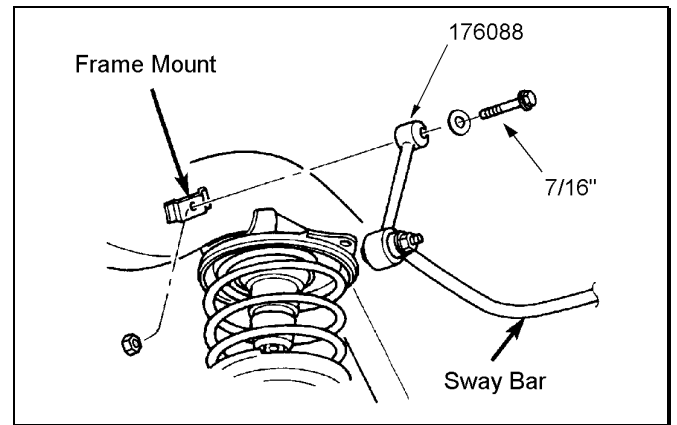

Figure 16
- 4) ☑ Attach the new end link assemblies to the frame brackets and rear sway bar with the hardware from kit 860155. See Figure 16. Tighten the end link mounting bolts to 40 ft. lbs.